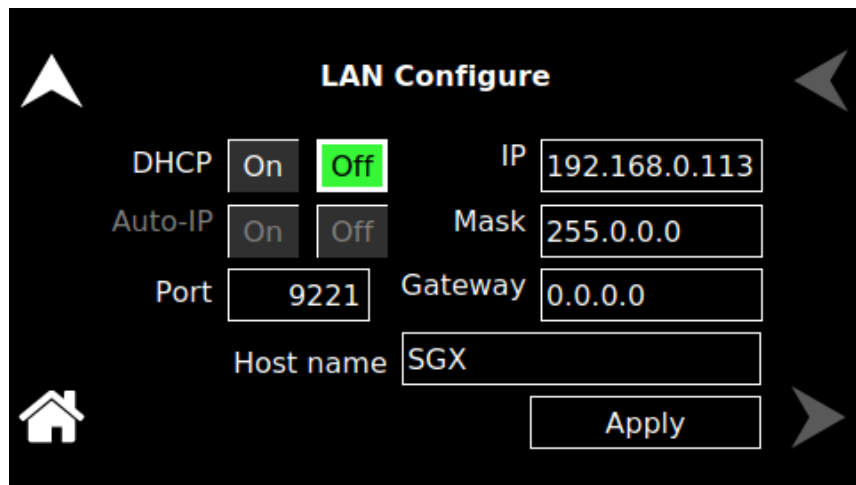

Figure 6-6. LAN Screen (Configure Static IP)
- Navigate to Home → Control Interface → LAN → LAN Configure. Make the DHCP as OFF, See Figure 6-6. For details refer to SGX Operation Manual, M551600-01.
- Enter the required IP address, Subnet Mask and Gateway (See Figure 6-6).
The essential components of communicating via a raw socket interface are the socket number, IP address and command delimiter. The default values are: socket = 9221, IP address = 192.168.0.200 (when DHCP is disabled), and delimiter = line feed <CRLF>. We can set the static IP address, Subnet Mask and Gateway using web browser (refer to Section 6.6.2 **IP Configuration**) or the RS232C interface (refer to Section 8.9 **System SCPI command**) or Front Panel (see Figure 6-6).